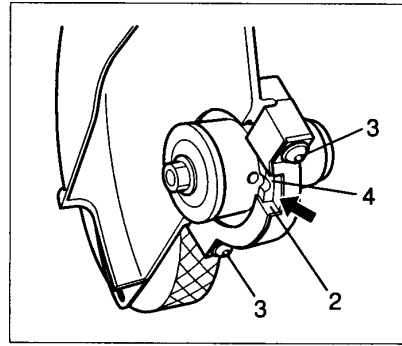

Fig. 1-7B
- 1) Install blade guard (1) on gear case (4) temporarily by clamping with guard brackets (2) and screws (3). Then tighten as needed.
- 2) Line up the slot of guard bracket (2) with the same of gear case (4), then tighten screws (3) securely. (Fig. 1-7B)